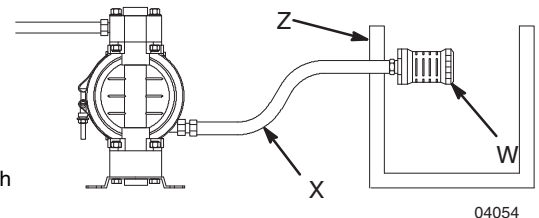

Fig. 2
- The Typical Installations in Fig. 2 are only guides for selecting and installing system components. Contact your Graco distributor for assistance in planning a system to suit your needs.
- Fig. 2 shows some installation examples. On all installations, mount the pump using screws and nuts.
A bleed-type master air valve (B) is required in your system to relieve air trapped between this valve and the pump. See Fig. 2. Trapped air can cause the pump to cycle unexpectedly, which could result in serious injury, including splashing in the eyes or on the skin, injury from moving parts, or contamination from hazardous fluids.
1. Install the air line accessories as shown in Fig. 2. Mount these accessories on the wall or on a bracket. Be sure the air line supplying the accessories is electrically conductive.
- a. The fluid pressure can be controlled in either of two ways. To control it on the air side, install an air regulator (G). To control it on the fluid side, install a fluid regulator (J) near the pump fluid outlet (see Fig. 2).
- b. Locate one bleed-type master air valve (B) close to the pump and use it to relieve trapped air. Read the **WARNING** above. Locate the other master air valve (E) upstream from all air line accessories and use it to isolate them during cleaning and repair.
- c. The air line filter (F) removes harmful dirt and moisture from the compressed air supply.
2. Install an electrically conductive, flexible air hose (C) between the accessories and the 1/4 npt(f) pump air inlet. Use a minimum 1/4 in. (6.3 mm) ID air hose. Screw an air line quick disconnect coupler (D) onto the end of the air hose (C), and screw the mating fitting into the pump air inlet snugly. Do not connect the coupler (D) to the fitting yet.
A fluid drain valve (H) is required in your system to relieve pressure in the hose if it is plugged. See Fig. 2. The drain valve reduces the risk of serious injury, including splashing in the eyes or on the skin, or contamination from hazardous fluids when relieving pressure. Install the valve close to the pump fluid outlet.
1. Use electrically conductive fluid hoses (K). The pump fluid outlet is 3/4 in. Screw the fluid fitting into the pump outlet snugly. **Do not overtighten.**
2. Install a fluid regulator (J) at the pump fluid outlet to control fluid pressure, if desired (see Fig. 2). See **Air Line**, step 1a, for another method of controlling pressure.
3. Install a fluid drain valve (H) near the fluid outlet. Read the **WARNING** above.
Diaphragm failure will cause the fluid being pumped to exhaust with the air. Place an appropriate container at the end of the air exhaust line to catch the fluid. See Fig. 2.
See **Venting Exhaust Air** in Fig. 2. Exhaust to a remote location as follows:
1. Remove the muffler (W) from the pump air exhaust port.
2. Install an electrically conductive air exhaust hose (X) and connect the muffler to the other end of the hose. The minimum size for the air exhaust hose is 3/8 in. (10 mm) ID. If a hose longer than 15 ft (4.57 m) is required, use a larger diameter hose. Avoid sharp bends or kinks in the hose.
3. Place a container (Z) at the end of the air exhaust line to catch fluid in case a diaphragm ruptures. See Fig. 2.
1. Fig. 2 and Parts Drawings. Follow preceding steps 1 through 8 of **Starting and Adjusting Pump**.
2. Open air regulator (G).